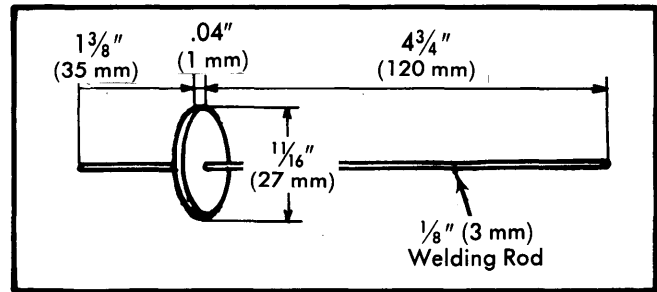

Fig. 2 Fabricated Tool
1) Fill the reservoir to the "FULL" mark and raise the front end of vehicle. To avoid foaming of the fluid during filling and testing, fabricate a stick, using the dimensions shown in Fig. 2.